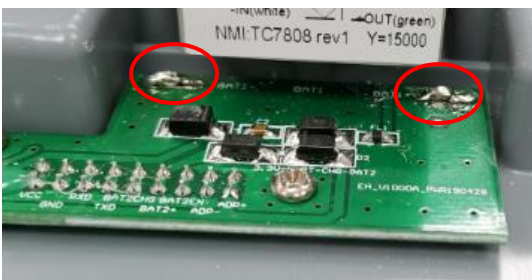

Figure 3-10. Unsolder the leads on the port PCB
3. Unsolder the leads connecting the battery metal sheet. See Figure 3-10, and lift the Port PCB.